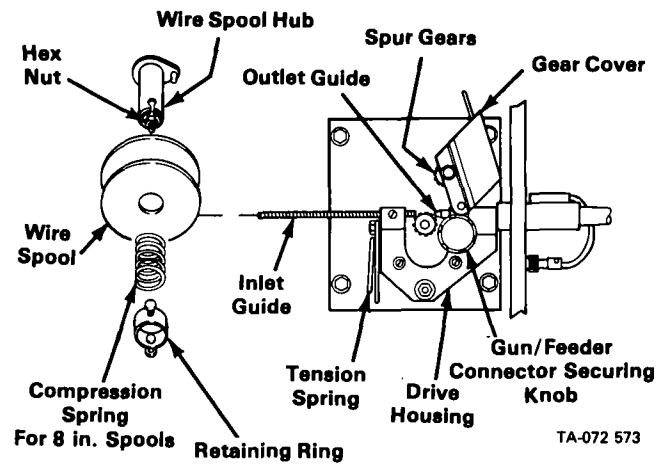

Figure 3-10. Wire Spool Installation And Welding Wire Threading
3 - 6. INSTALLATION OF WELDING WIRE SPOOL (Figure 3-10)
4. Place wire spool onto the wire spool hub so that wire feeds from the bottom of the spool into the inlet wire guide as shown in Figure 3-10. Ensure that small pin of the spool hub fits into the small hole of the wire spool.
3 - 7. THREADING THE WELDING WIRE (Figure 3-10)
1. Disengage tension spring on drive assembly and pivot the gear cover open as shown in Figure 3-10.
7. Set proper hub tension by adjusting the hex nut (see Figure 3-10). Wire should unwind freely, but tension should be sufficient to keep the wire taut and prevent backlash when the gun trigger is released.